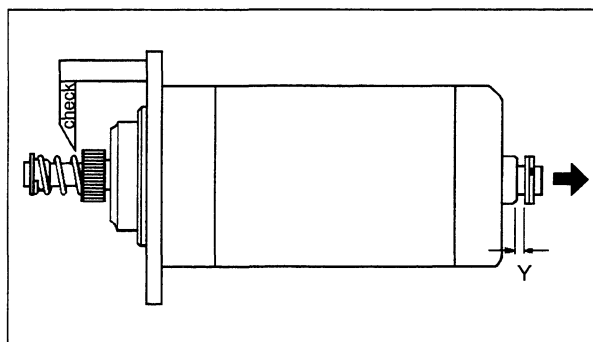

Fig. 17 'Y' Dimension
- (iv) Push the armature towards the commutator end of the machine as shown in Fig. 17 and measure gap 'Y' which should now be within the limit 2,0 to 2,5 mm (0,080 to 0,100 in). A GO/NO GO gauge is available (see Section 6.1 SPECIAL TOOLS).